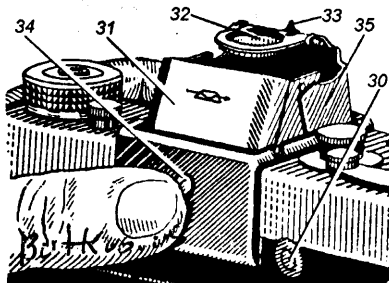

Fig. 3
The prism finder can be removed from the camera and is replaced by the finder-hood (or WLF) (see Fig.3). The photographing without these devices can result lightning of the frame through the holes near the focusing screen.
NOTE: Old issues of Start camera have special lock (item 30 at fig. 3) for viewfinders. You can see it at right side from eyepiece.